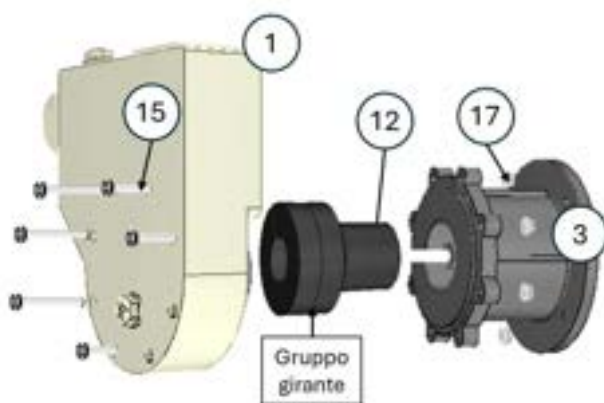

Fig.4
1. Separate the pump casing (1) from the lantern (3), removing the screws (15) from the nuts (17) with their respective washers
2. Slide out the inner magnet (12) with the impeller assembly (Fig4)
3. Check the shaft (8) and ring (9) for wear